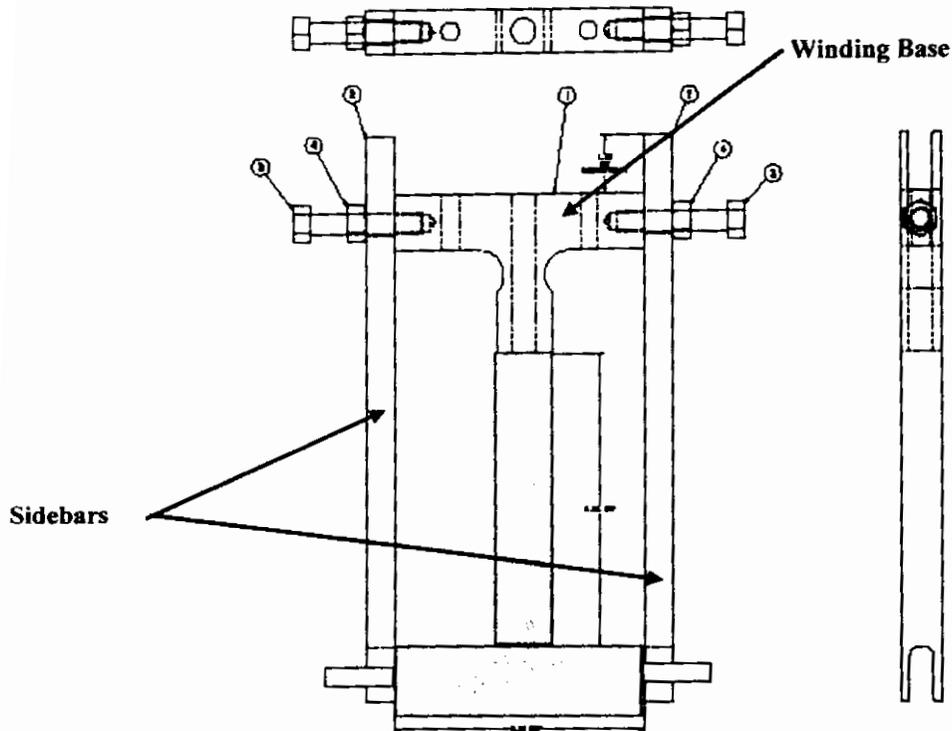

Figure 10- Winding Clamps
Mount the (3) part winding clamps to the MCWF as shown in Figure 10- Winding Clamps. The clamps are located approximately every 3 inches along the entire length of the MCWF. Secure the winding base to the top of the tee using the appropriate hardware. Position the (2) side bars to the winding base, and side studs using the appropriate hardware.